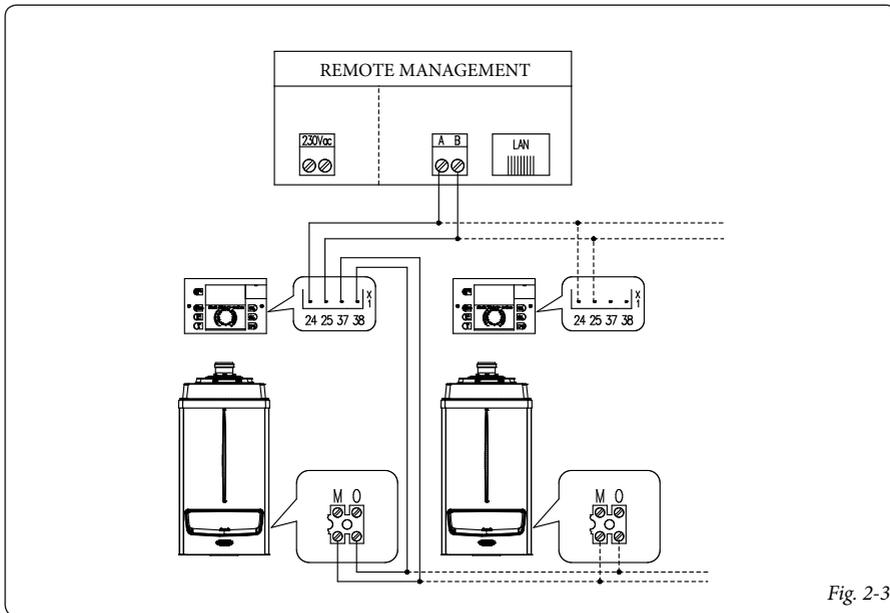

Fig. 2-3
- 1) Connect the Remote Management System to a cascade and zone regulator via BUS A and B (see diagram Fig. 2-3).